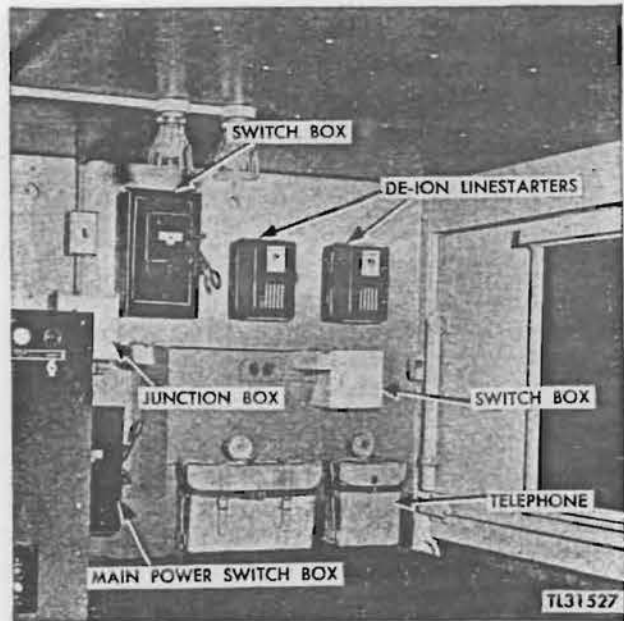

Figure 168. Power panel in Operations Truck K-62.
b. LOCATION. Three power switches and junction box No. 2 are mounted on the front wall of the operating van above the plotting table. (See fig. 168.)
b. LOCATION. The De-ion linestarters are mounted on the wall of the operating van above the plotting table. (See fig. 168.)
c. MAINTENANCE PROCEDURE; PREPARATORY STEPS. Open the doors of the two De-ion linestarters. (See item 123, under Maintenance Procedure (De-ion Linestarter)). Follow the same maintenance procedure for these two linestarters.